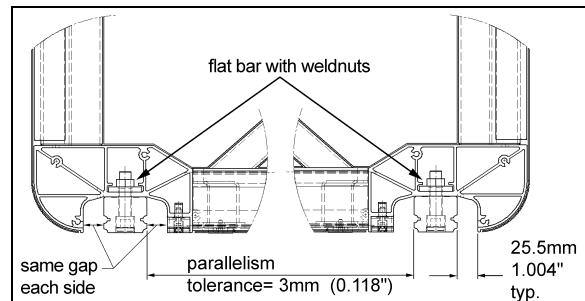

FIGURE 24: RAIL POSITIONING
The rail is bolted to a flat bar on which weldnuts are mounted. The flat bar is inserted in the slide-out lower body extrusion and can be removed through the end cap (Figure 24).
8. Adjust the rail position with as per FIGURE 24. For each rail, make sure the gap is the same both side of the rail.